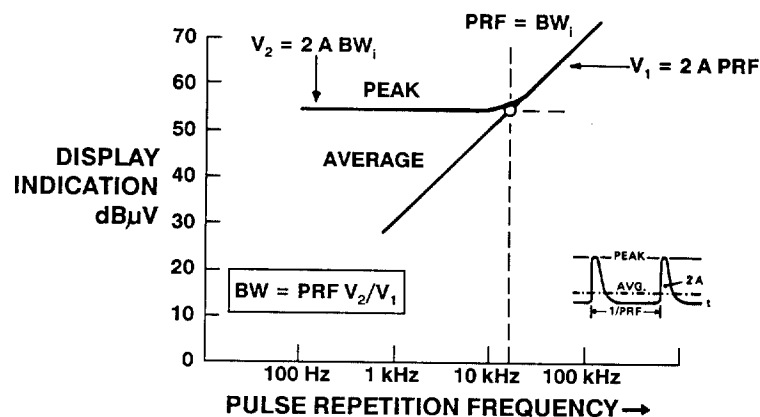

Figure 3-2
2. Change the pulse repetition rate to a rate much less than the spectrum analyzer's resolution bandwidth. The pulse shape must remain constant. Because the pulse rate is much less than the resolution bandwidth, several spectral lines are contained by the filter. Keeping the center frequency tuned to the same value as in the first part of this procedure, measure the signal amplitude. This amplitude, V_2 , is equal to $2 * A * BW_i$, where A is the area of the pulse and BW_i is impulse bandwidth. By combining the equations for V_1 and V_2 , the variable A drops out; the resulting equation is $BW_i = PRF1 * V_2/V_1$ (see Figure 3-2).